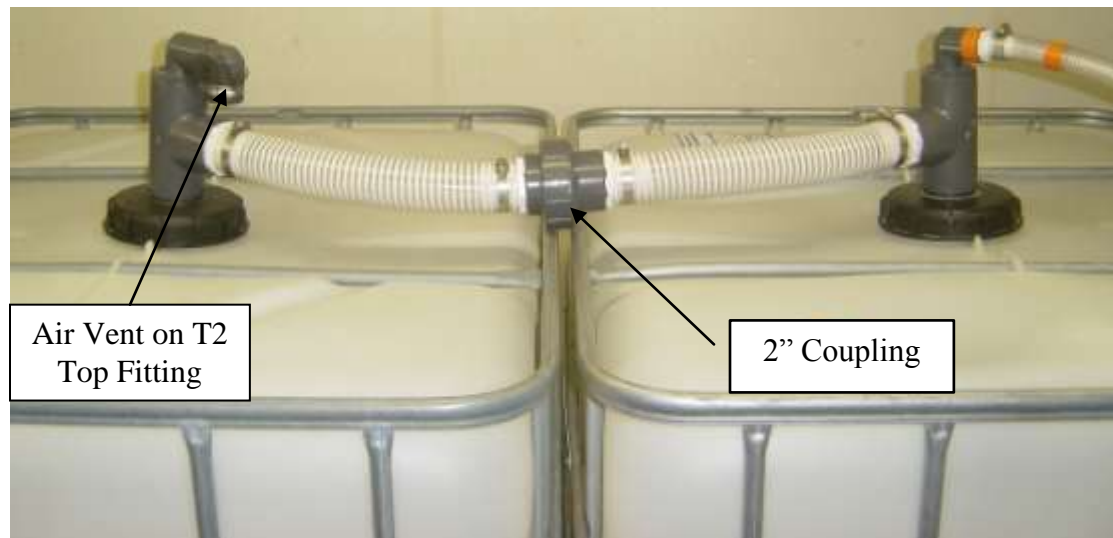

Figure 37: 2-inch Coupling between T1 Top Fitting and T2 Top Fitting
- d. Connect the 2-inch coupling between the T1 Top Fitting and the T2 Top Fitting and tighten hand tight as shown in Figure 37.